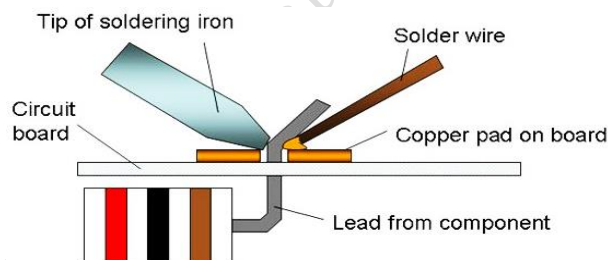

Fig. 3.31 Process of Soldering
- Use just enough solder to form a strong connection as shown in Figure 3.31.